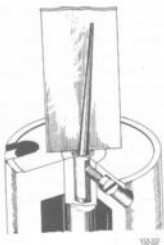

Fig. 2-124. Fitting the metering needle
4. Fit the needle with the spring suspension so that the flat surface faces the lock screw. The needle should incline from the holes in the air valve, i.e., in towards the air cleaner flange. The needle should be inserted so far that the plastic washer lies flush with the valve, see Fig. 2-124. Tighten the lock screw.